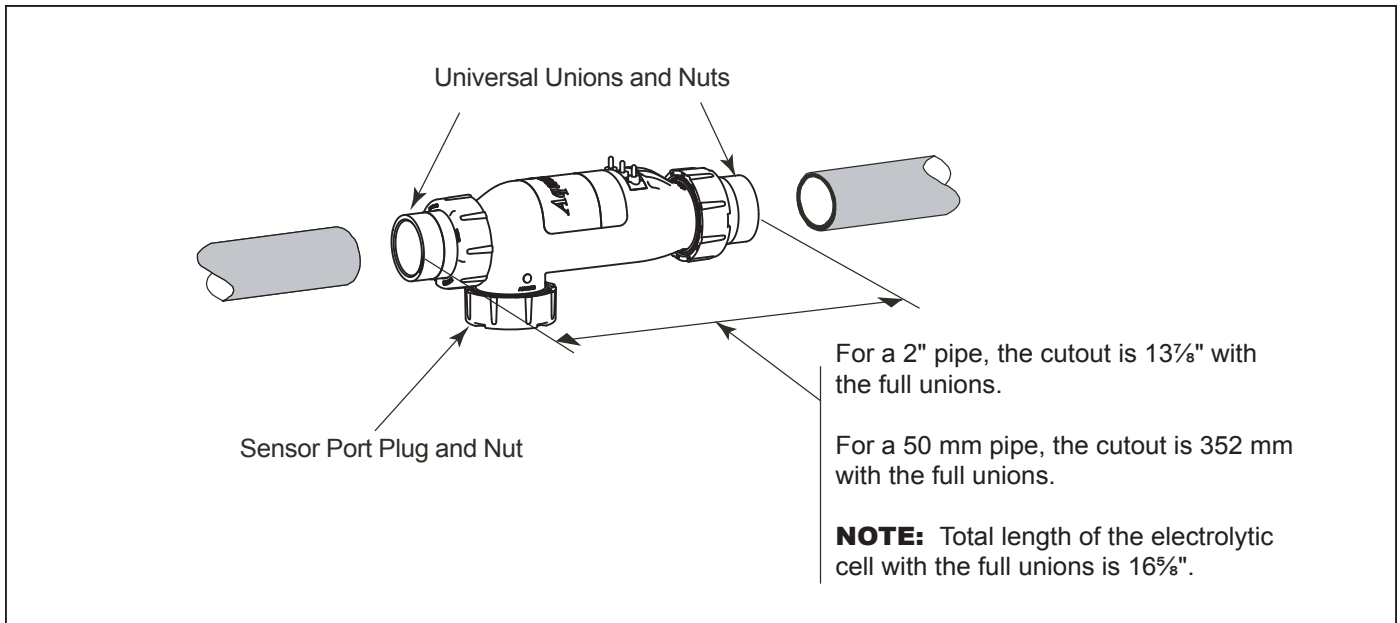

Figure 12. Pipe Cutout
5. Cut out a 13⁷/₈" (352 mm) section of the 2" (50 mm) pipe to insert the Cell. See Figure 12. Glue on unions and install cell.